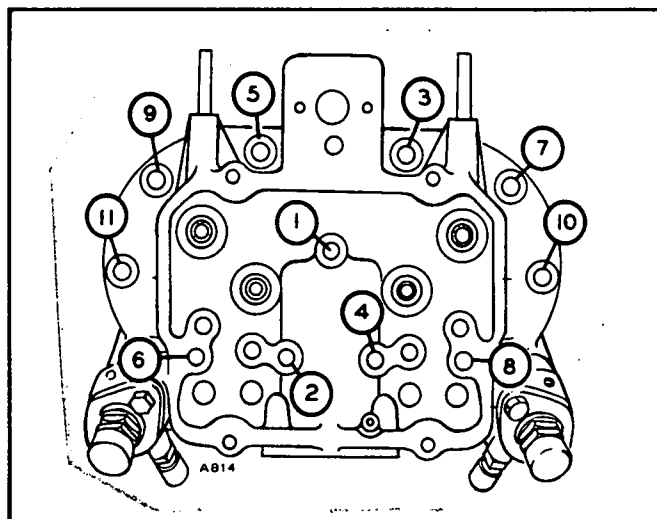

FIGURE 46. HEAD BOLT TIGHTENING SEQUENCE
5. Install the head assembly and gasket to the cylinder block. Tighten the head bolts to 44 to 46 foot-pounds. Follow the sequence in Figure 46 and steps a through c.
- c. Tighten cylinder head bolts in the sequence shown in Figure 46 to 25-30 foot-pounds.